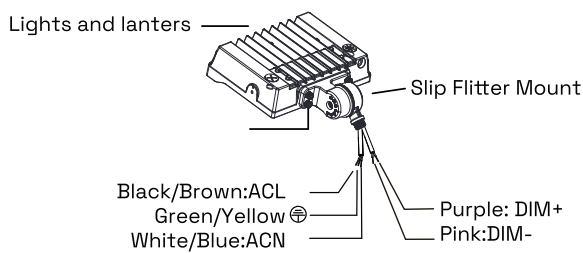

Fig 3.3
Step 2: Finish the wire connection according to the right mode of connection (pay attention to positive wire, negative wire, and ground wire, and ground wire), and then put wire into lamp pole. Figure 3.3